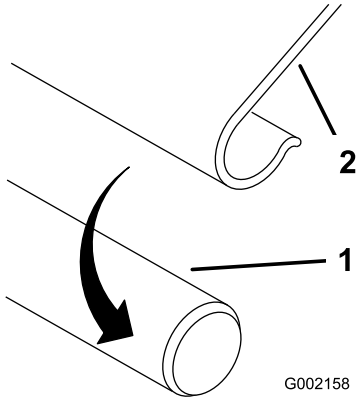

Figure 4
- Snap the J-strips over the frame rods (Figure 4).